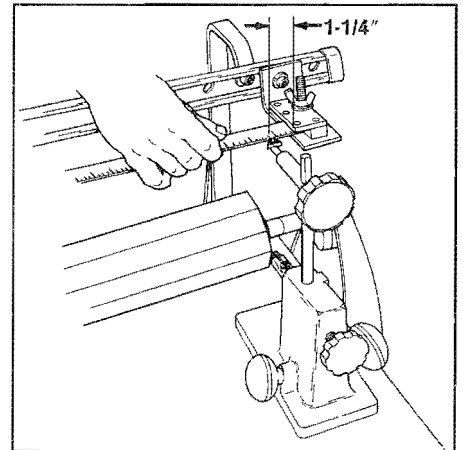

Figure 7. Adjust the right-hand template support assembly.
1. Adjust the right-hand template support assembly. Loosen the bracket mounting screw (11). Use a ruler and the tool rest assembly to position the template support assembly so that the front edge of the template clamp (5) is 1-1/4" back from the cup of the tailstock center. (See Figure 7.) With the top edge of the template support bracket parallel to the channel, tighten the screw (11) securely.